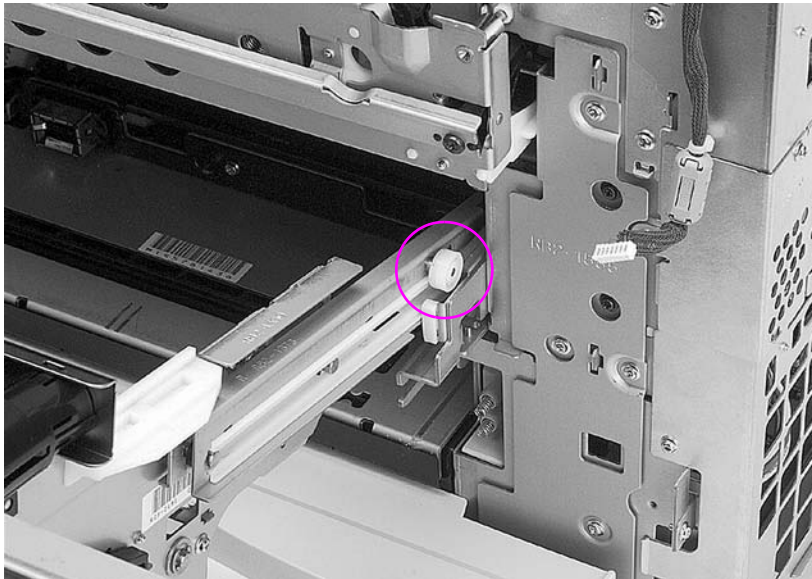

Figure 6-10 ITB drawer (middle drawer) removal and replacement
- 3 Lift the drawer, clearing the first set of guide wheels from the guide rail (Figure 6-10). Pull the guide rails until the next set of guide wheels stop, and then lift to clear the second set of guide wheels from the guide rails.